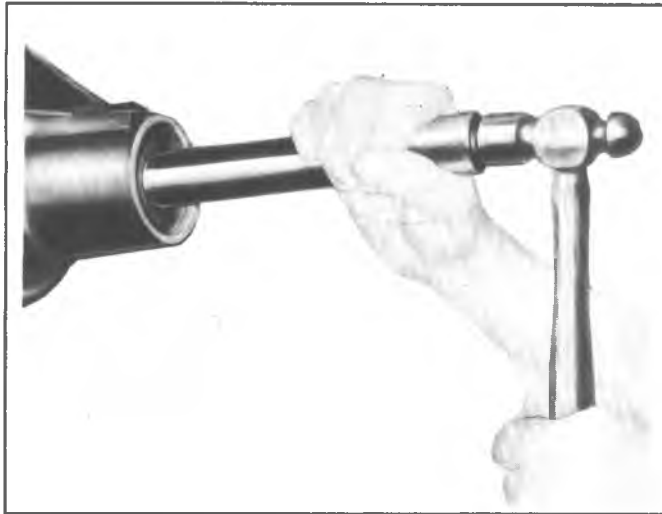

Fig. 19B--Installing Pinion Front Bearing Cup
7. Install the front cup, with the large end against the bore shoulder, using Installer J-8611-01 for the 8-1/2" ring gear or J-7137 for the 8-7/8" ring gear or J-7818 for the 9 1/2" ring gear as shown in figure 19B.